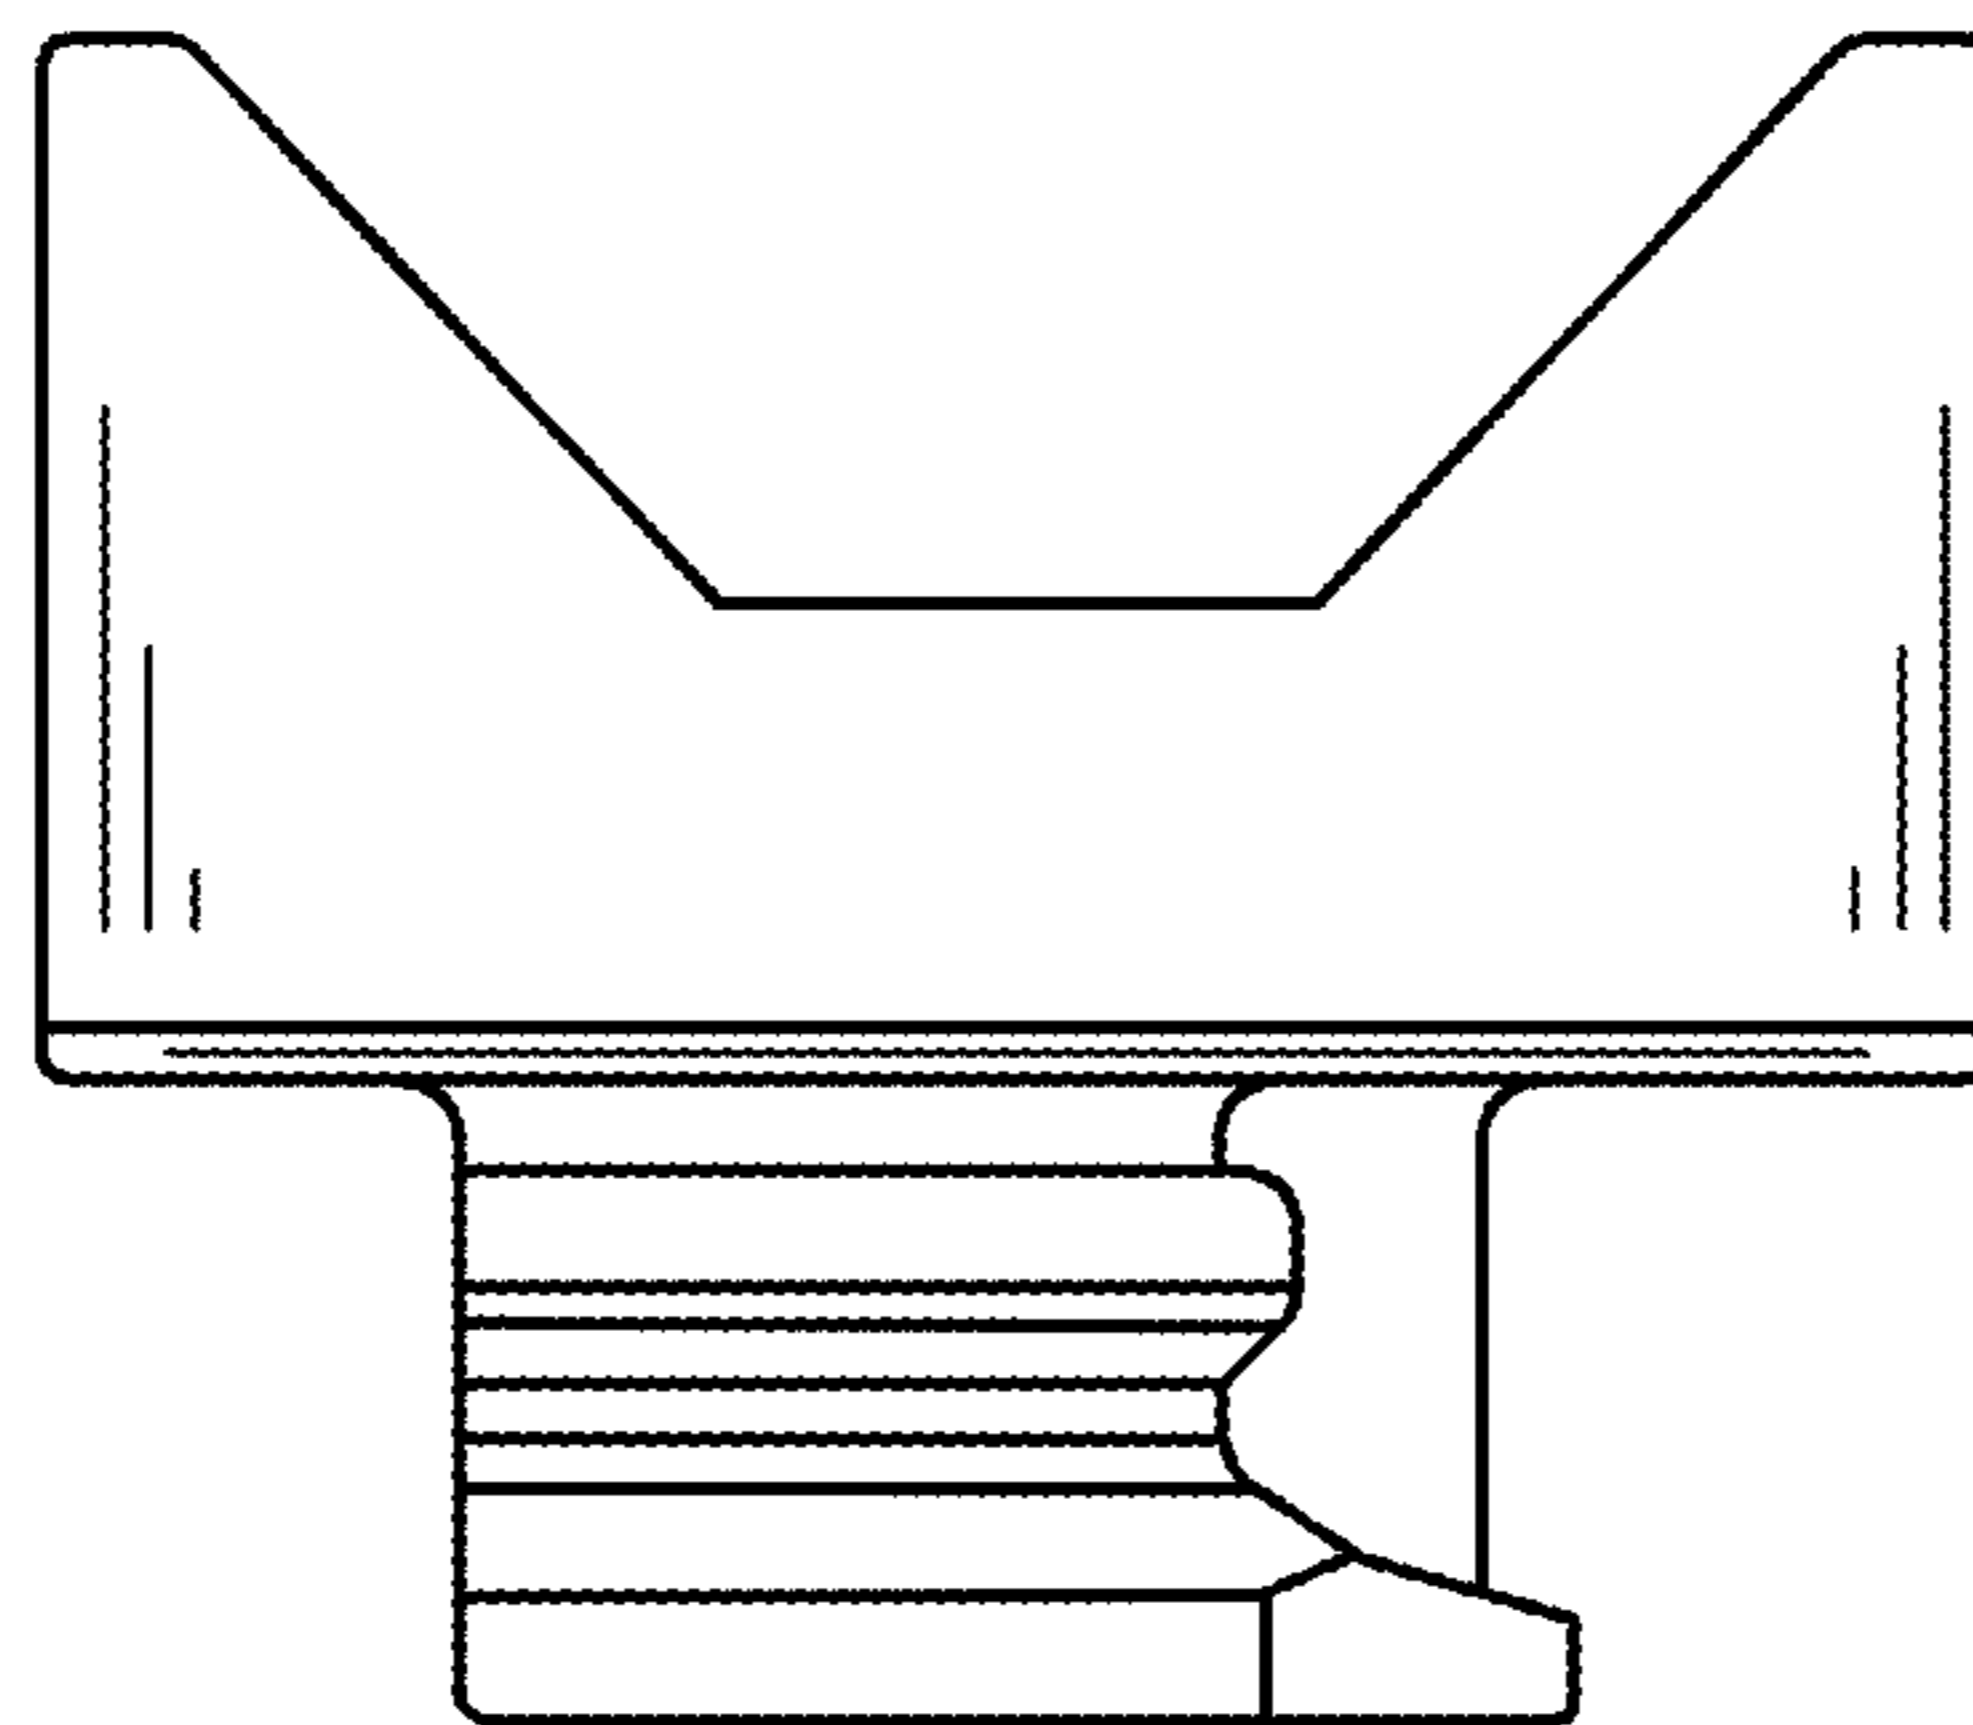

FIG. 4
- FIG. 4 is a left side view of the pipe clamp.